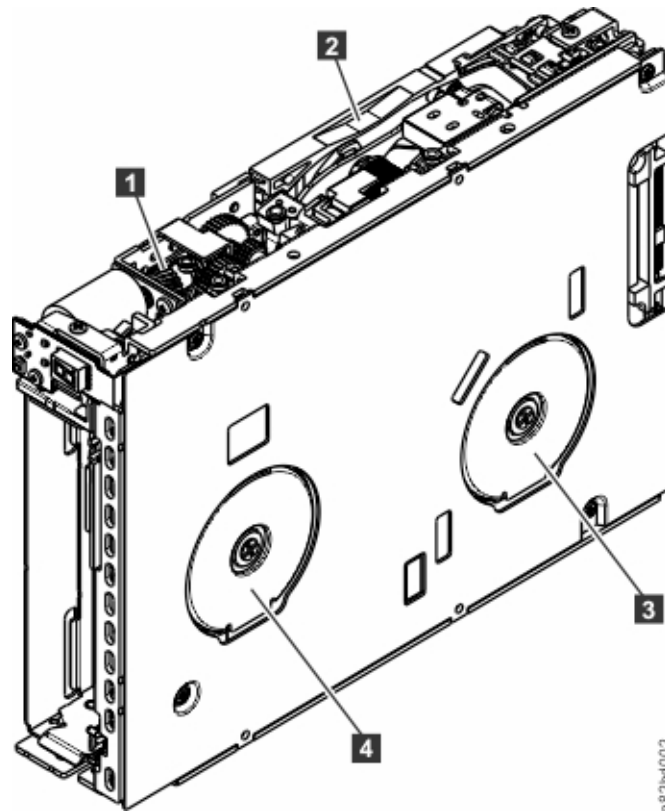

Figure 20. Rewinding tape into cartridge
Attention: DO NOT TOUCH THE OUTER GUIDE RAIL (2 in Figure 20 on page 82). THIS RAIL IS VERY DELICATE AND EASILY DAMAGED.
5. Turn the supply reel (4 in Figure 20 on page 82) clockwise, allowing the moistened tape to adhere to the hub as it winds around the supply reel (inside the cartridge).
6. Continue spooling into the cartridge until the tape is taut and remains within the flanges of the tape guiding rollers. Turn the supply reel (**4** in Figure 20 on page 82) 10 more turns. Ensure that you do not stretch the tape.